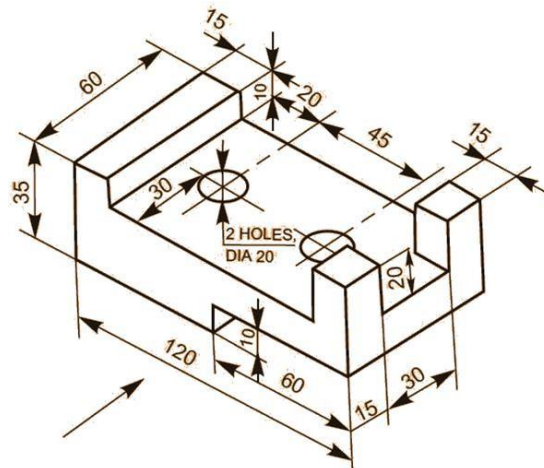

Fig. 9.1
1. Model the component shown in Figure 9.1 using Pro-E Software and view it in wireframe and Isometric Views. **50 Minutes/ 10 Marks/ Level 1/-**